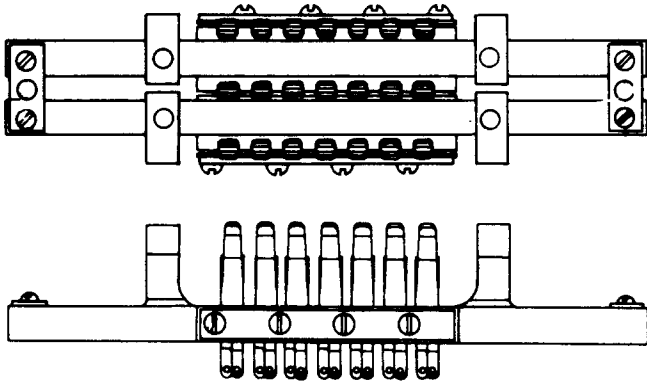

Fig. 5—310 Jack
2.05 **310:** (A & M only.) This apparatus should be ordered only for additions or maintenance of existing equipment arranged for this type of apparatus. This multicontact jack (Fig. 5) is used with the 400-point line finder as an emergency switching jack in conjunction with the 226 plug which engages with the jack in either of two positions. The 310 jack is equipped with 21 pairs of contact springs insulated from each other. This jack is provided with guide holes to engage with guide posts of associated plugs for centering contacts of the plugs and the jacks. The 211B switch is recommended in place of the 310 jack and the 226 plug.